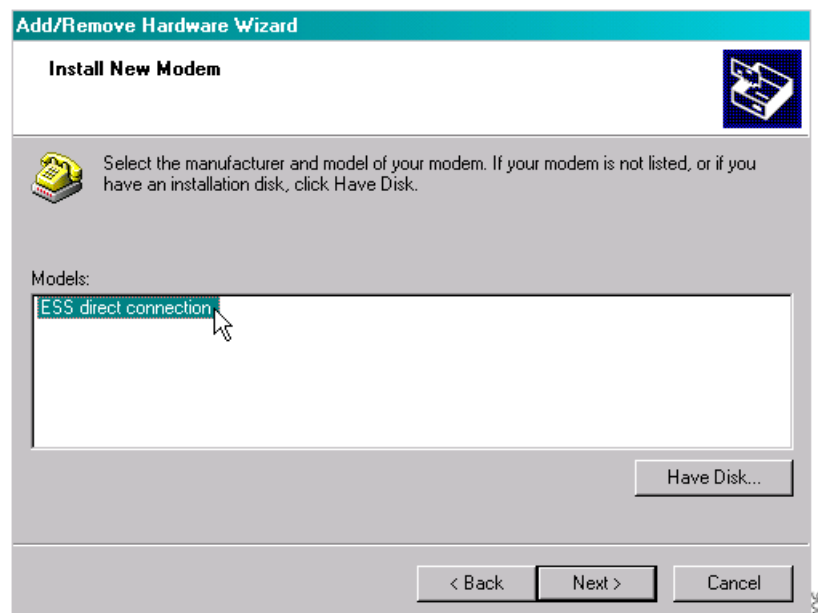

Figure 7. Installing modem settings for direct line connection.
- 4 Click the "Have Disk..." button and then locate the file in the "Modem" folder in the RMC software package located in your temporary folder. Click "Open". The modem is shown in the *Models:* field, see figure 7 on page 8.